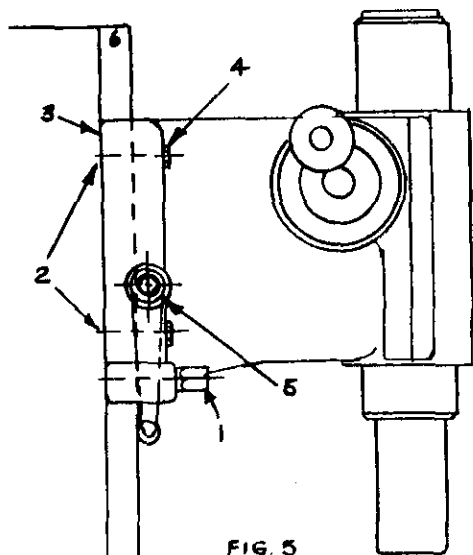

FIG. 5
1. SLIDING HEAD GIB (20-605) (Fig.5) - Loosen set screws (2) behind gib (3) and adjust hexagon head screws (4) evenly so that the sliding head can be moved up and down freely, with elevating lever and crank (5). Then check with a .0015 shim to see if all ways on sliding head are closed to the column ways (6), thus giving you proper bearing surface between sliding head and column. Re-tighten set screws (2) against hexagon head screws.